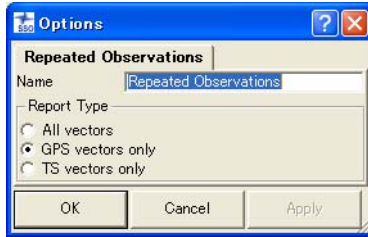

Figure 7-19. Item Options – Repeated Observations
- Repeated Observations – edit the name and select the report type for vectors, then click **OK** (Figure 7-19).